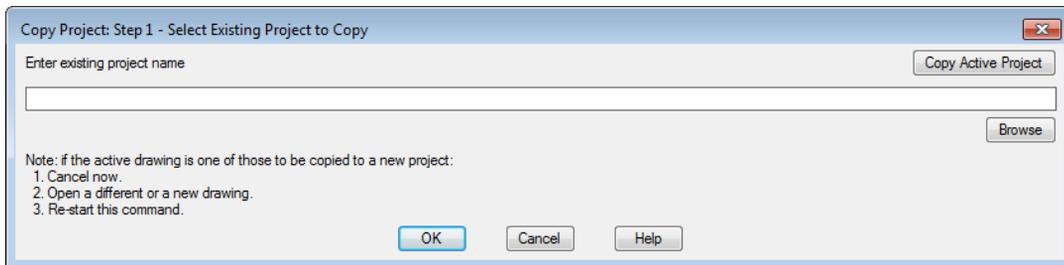

Figure 2-67 The Copy Project Step 1 - Select Existing Project to Copy dialog box
1. Choose the **Copy** tool from the **Project Tools** panel of the **Project** tab; the **Copy Project: Step 1 - Select Existing Project to Copy** dialog box is displayed, as shown in Figure 2-67.